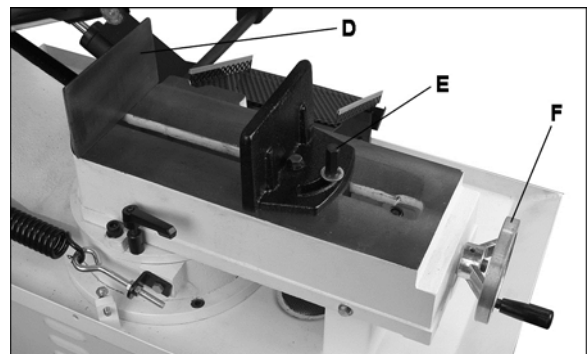

Figure 16
1. Make sure fixed jaw (D, Figure 16) has been squared (section 9.2, Squaring blade to vise).
3. Loosen hexagonal stud (E) on floating jaw.
4. Rotate handwheel (F) slightly counter-clockwise, then push floating jaw by hand until it contacts workpiece and adjusts to its shape.
5. Tighten stud (E).